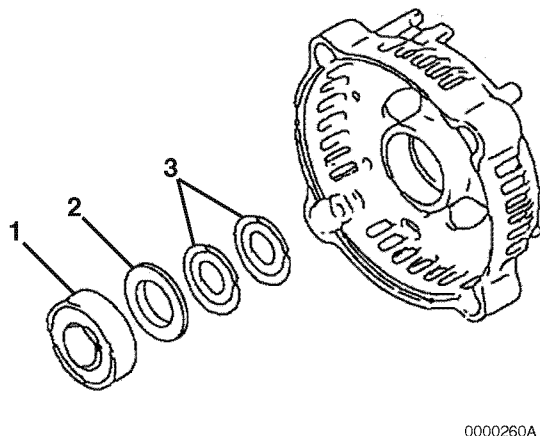

Figure 12-12
1. If removed, reinstall the two thrust washers **(Figure 12-12, (3))** and bearing cover **(Figure 12-12, (2))** in the rear frame housing. Lubricate the outside diameter of a new bearing **(Figure 12-12, (1))**. Press the bearing into the rear frame housing.